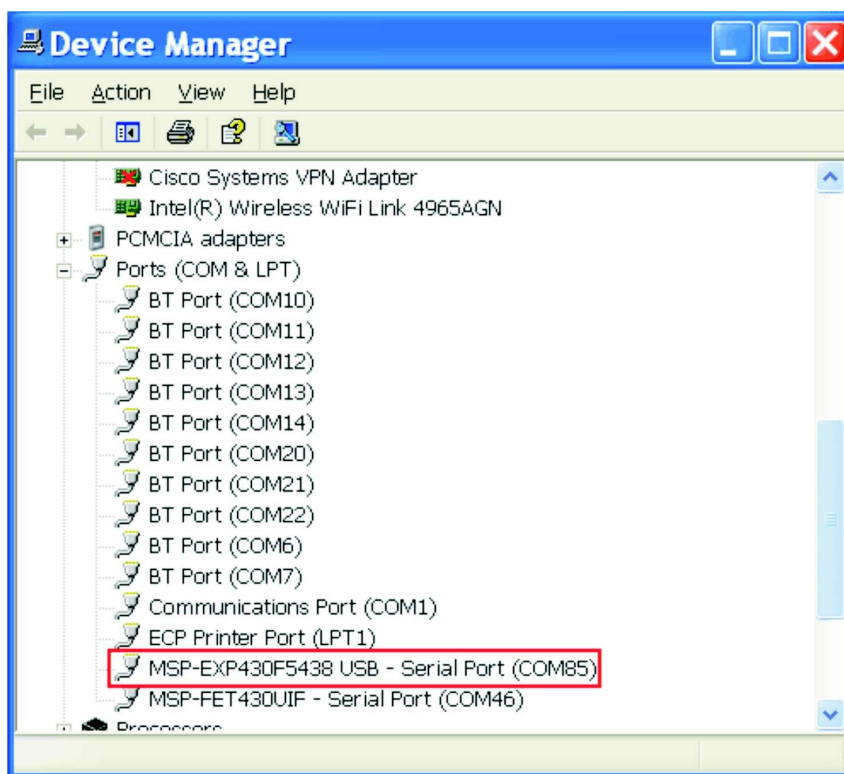

Figure 2-1. Installing the MSP-EXP430F5438 USB Driver
5. To make sure that the USB driver installation was successful, open Device Manager under Start > Control Panel > System > Hardware > Device Manager. An entry labeled as "MSP-EXP430F5438 USB – Serial Port (COMxx)" appear under "Ports (COM & LPT)" if installation was successful (the xx in COM identifies the enumeration of the COM port) (see Figure 2-1).